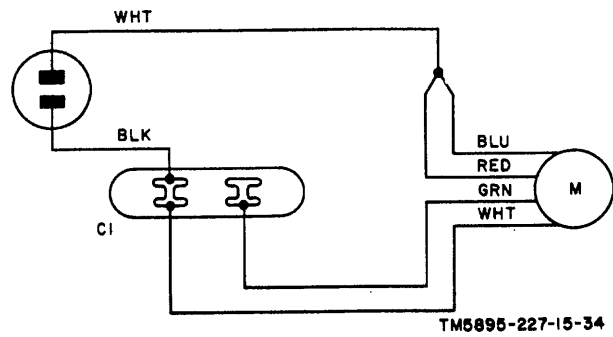

Figure 37. Exhaust blower, schematic-wiring diagram.
- (1) Loosen the capacitor clamp screw.
- (2) Remove the power cord clamp from the motor bracket.
- (3) Slide the capacitor out of the clamp.
- (4) Tag and disconnect the motor leads and the power cord from the capacitor terminals.
- (5) Connect the motor leads and the power cord to the replacement capacitor (fig. 37).
- (6) Slide the capacitor into the clamp and tighten the screw.
- (7) Replace the power cord clamp.
- (1) Remove the capacitor from the clamp (b(2) through (4) above).
- (2) Tag and disconnect the power cord leads from the capacitor and motor leads.
- (3) Connect the new power cord to the capacitor and motor leads (fig. 37).
- (4) Slide the capacitor into the clamp and tighten the screw.
- (5) Replace the power cord clamp.
- (1) Remove the two screws from the bottom edge of the plate that holds the exhaust blower to the front wall.
- (2) Lift the exhaust blower away from the wall.
- (3) Remove the four bolts that secure the blade guard and motor brackets to the blower ring.
- (4) Tag and disconnect the motor leads from the capacitor and power cord.
- (5) Remove the power cord clamp.
- (6) Remove the four screws that secure the motor mounting bracket to the motor.
- (7) Loosen the two Allen-head setscrews that secure the impeller to the motor shaft and remove the impeller.
- (8) Slide the impeller (setscrews toward the motor) onto the shaft of the new motor and tighten the setscrews.
- (9) Secure the motor bracket to the new motor.
- (10) Connect the motor leads to the capacitor and power cord (fig. 37).
- (11) Replace the power cord clamp.
- (12) Position the motor bracket and blade guard on the blower ring.
- (13) Replace and tighten the bolts that secure the motor bracket and blade guard to the blower.
- (14) Replace the exhaust blower by reversing the procedures in (1) and (2) above.
- (15) Replace the exhaust blower cover (par. 42).